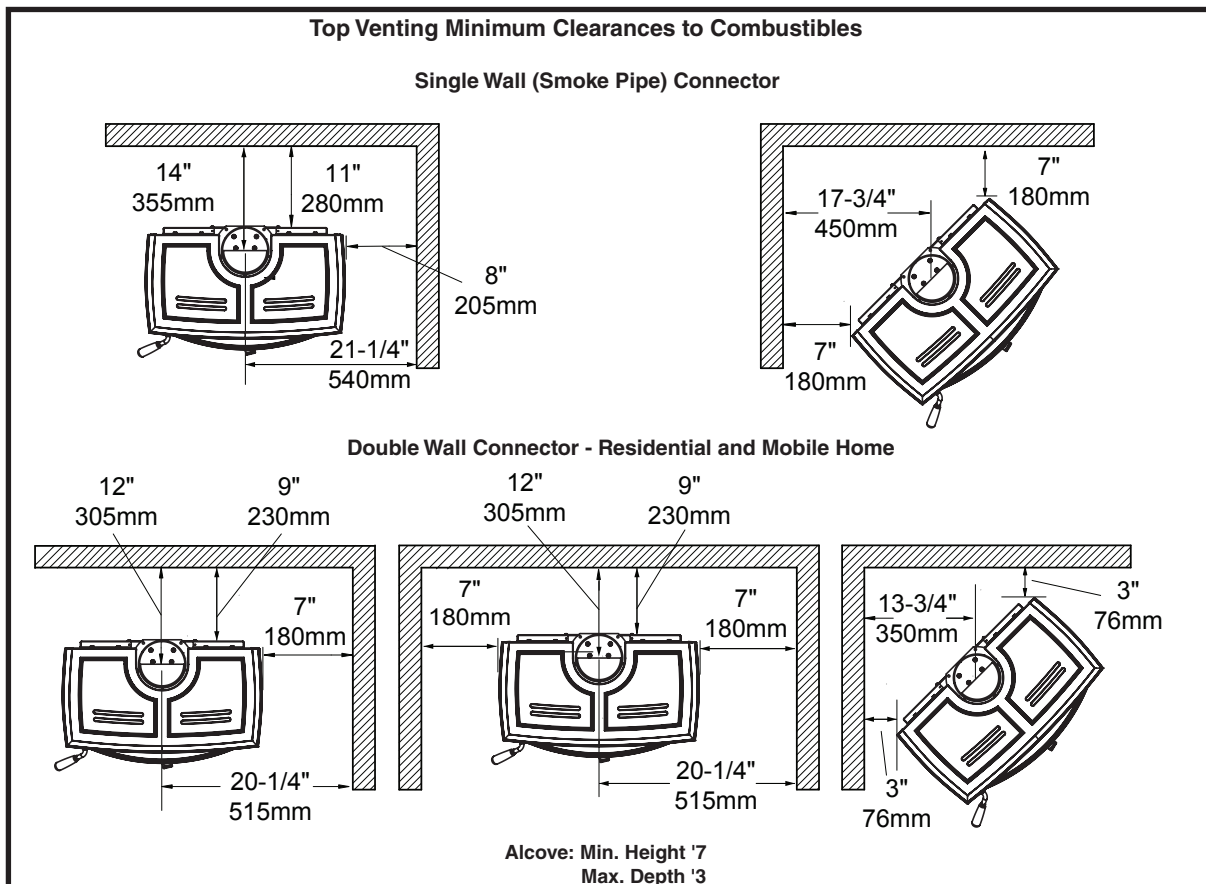

Figure 14: Alt 1.2 Clearances top flue
1. Clearances to combustibles surfaces and materials using single-wall connector are shown in Figure 14. Clearances may be reduced with various heat insulating materials. Consult local fire codes and authorities for approval.
2. Alternately, for close clearances, use a listed double-wall connector (Figure 14).
This heater must be installed with a listed double-wall connector and compatible chimney system. Clearances to combustible surfaces and materials are shown in Figure 14. Consult local fire codes and authorities for final approval.